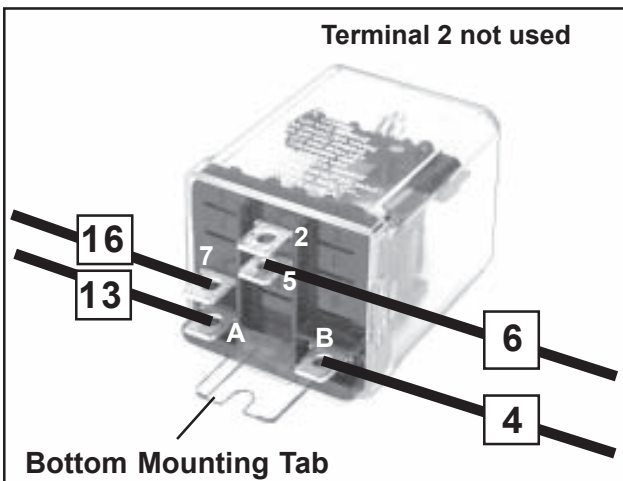

Figure 147. Wire Terminals on the Relay
4. Mark all four wires on the base with the wire numbers shown in Figure 147 so that you can reconnect them correctly.
2. Attach the four wires to the bottom of the relay (Figure 147).